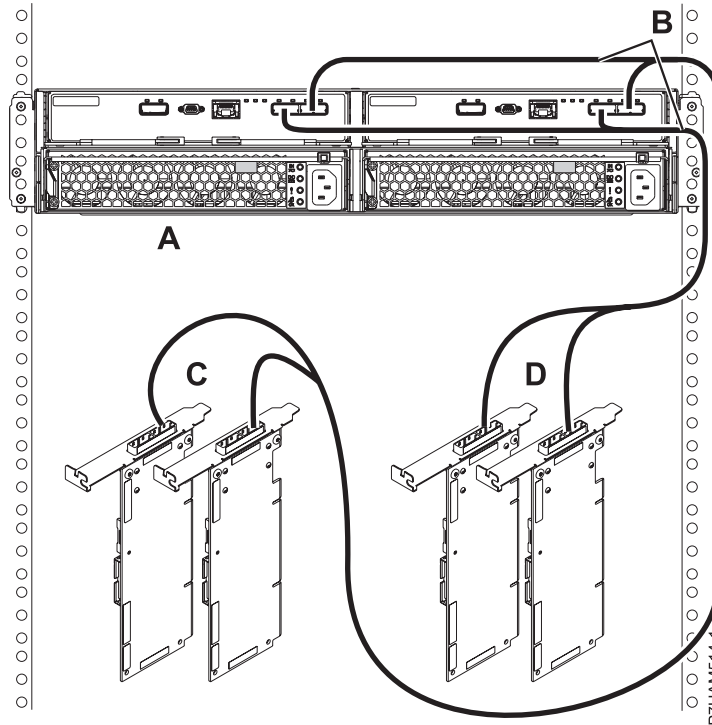

Figure 36. Mode 2 connection of one 5887 disk drive enclosure by using X cables to two SAS adapter pairs
- p. Perform the mode 2 connection of one 5887 disk drive enclosure (A) by using X cables (B) to two SAS adapter pairs as shown in Figure 36 on page 32.